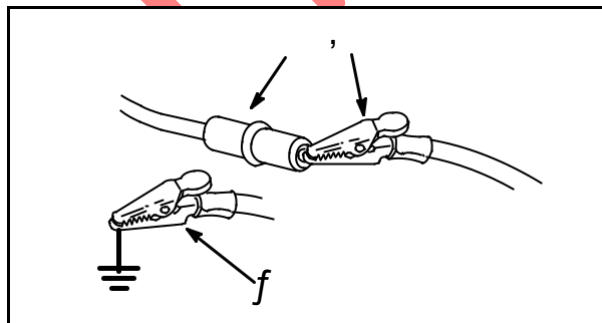

Fig. 54
With engine running at top governed speed, attach one end of a jumper (2) wire to BLUE wire from control module (1). Attach the other end of the jumper wire (3) to a good ground, **Fig. 54**. After 4 – 6 seconds engine speed should return to idle (approximately **1750 RPM**).